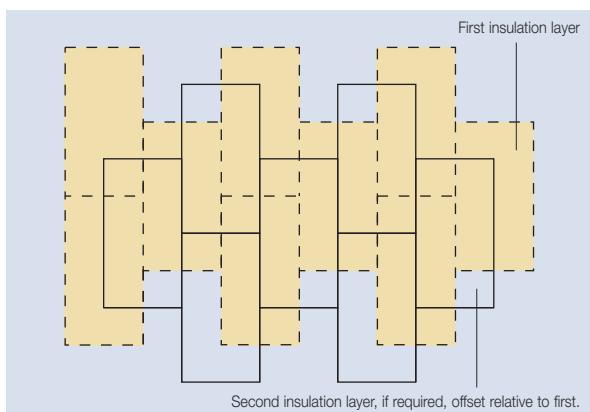

Figure 12 Offsetting of Multiple Insulation Layers
- If two layers of insulation are required, they should be horizontally offset relative to each other so that, as far as possible, the board joints in the two adjacent layers do not coincide with each other (see Figure 12).